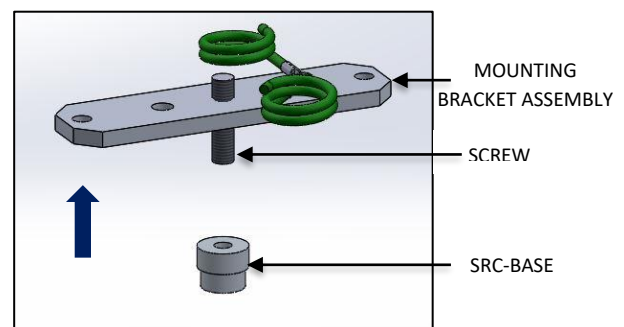

FIG. 12 -SRC-BASE INSTALLATION
- Assemble the SRC BASE to the SCREW (Available in mounting bracket assembly) as shown below in FIG.12.